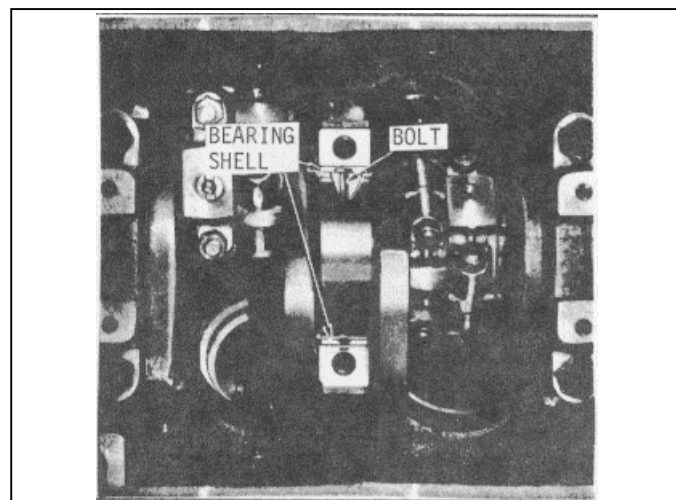

Fig. 3
- (a) To remove all except the rear main bearing shell, insert a 5/16" x 1" bolt with a 1/2" diameter and a 1/16" thick head (made from a standard bolt) into the crankshaft journal oil hole. Then revolve the shaft to the right (clock- wise) and roll the bearing shell out of position as shown in Fig. 3. The head of the bolt must not extend beyond the outside diameter of the bearing shell.